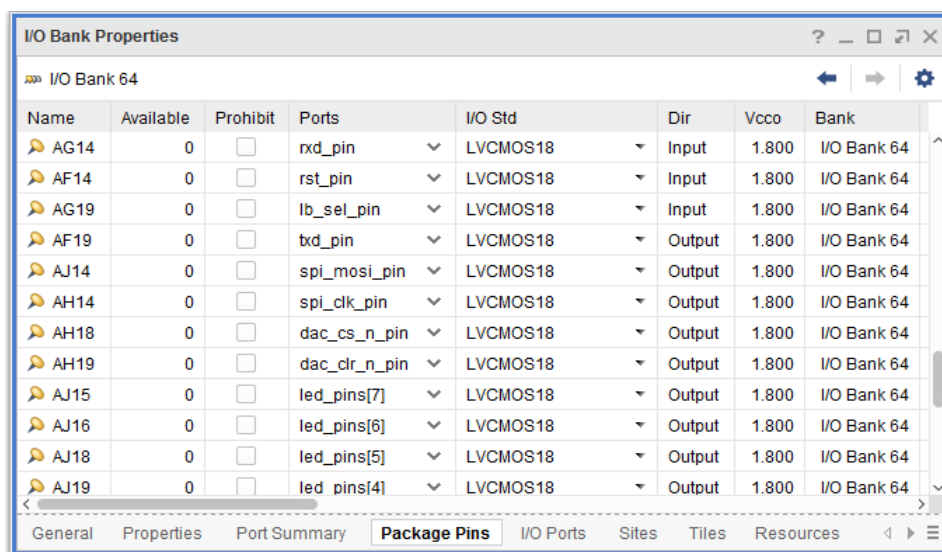

Figure 3-5: I/O Bank Properties
2. In the I/O Bank Properties window (Figure 3-5), click the views at the bottom of the window to see the different types of information available.